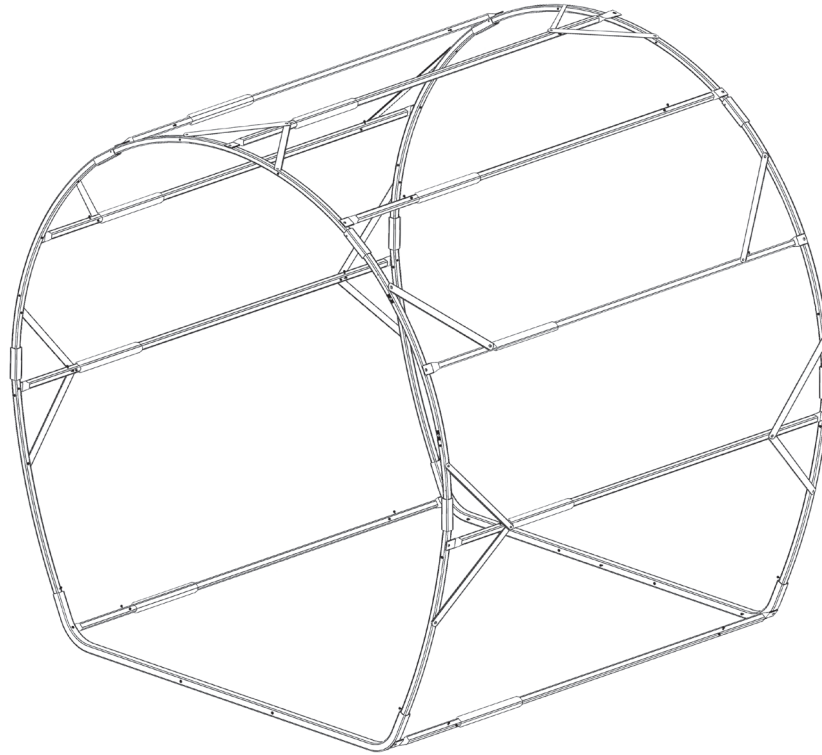

Figure 24.1
STEP 16: Install the top of Section 4 that was created in Step 13 into Section 3 that was created in Step 11 and install the bottom of Section 5 that was created in Step 14 into the frame base that was created in Step 6, resulting in the frame illustrated in Figure 24.1.